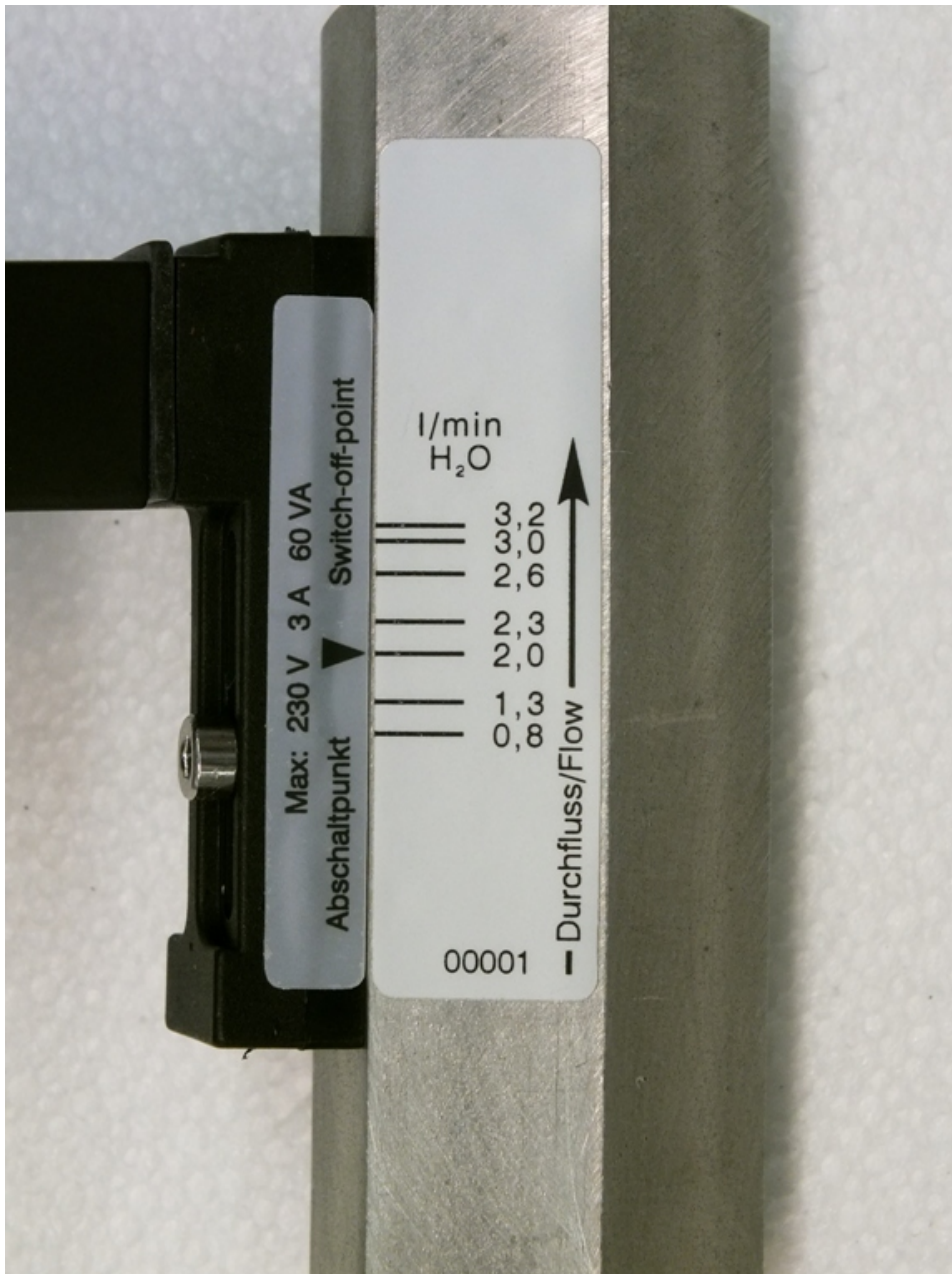

Fig. 34: Reading-off the switch point value (sample scale)
1. Make sure that the setting arrow and the scale mark on the switchpoint adjustment scale are in alignment (Fig. 34).